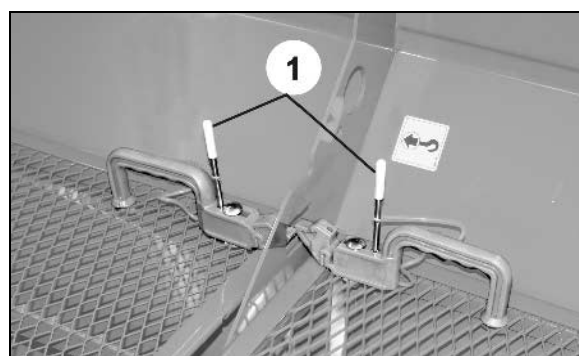

Fig. 22
- (Fig. 22/1) parking position (standard position)